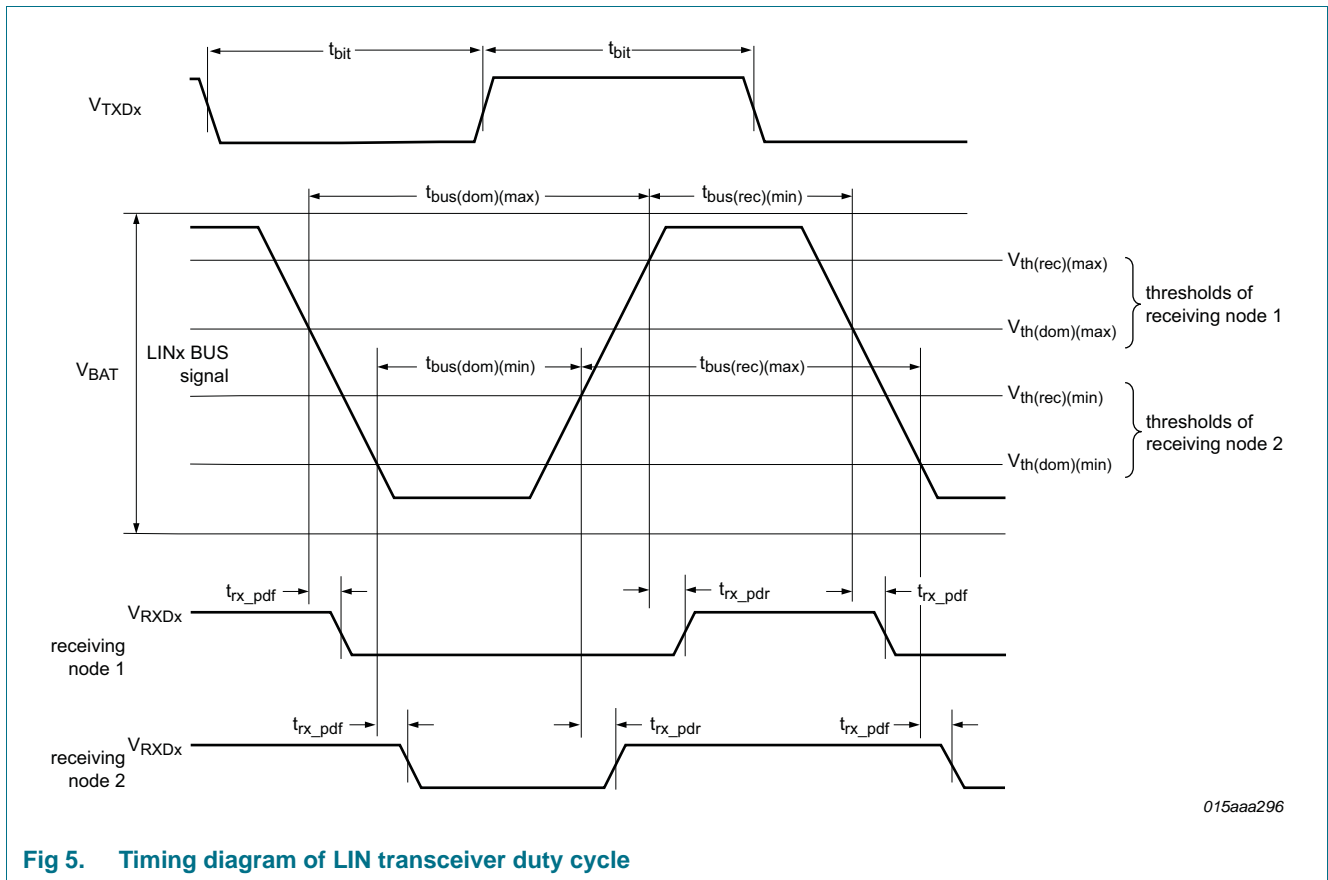

Fig 5. Timing diagram of LIN transceiver duty cycle
- [2] $\delta I, \delta 3 = \frac{t_{bus(rec)(min)}}{2 \times t_{bit}}$. Variable $t_{bus(rec)(min)}$ is illustrated in the LIN timing diagram in Figure 5.
- [3] $\delta 2, \delta 4 = \frac{t_{bus(rec)(max)}}{2 \times t_{bit}}$. Variable $t_{bus(rec)(max)}$ is illustrated in the LIN timing diagram in Figure 5.
- [5] See timing diagram in Figure 5.